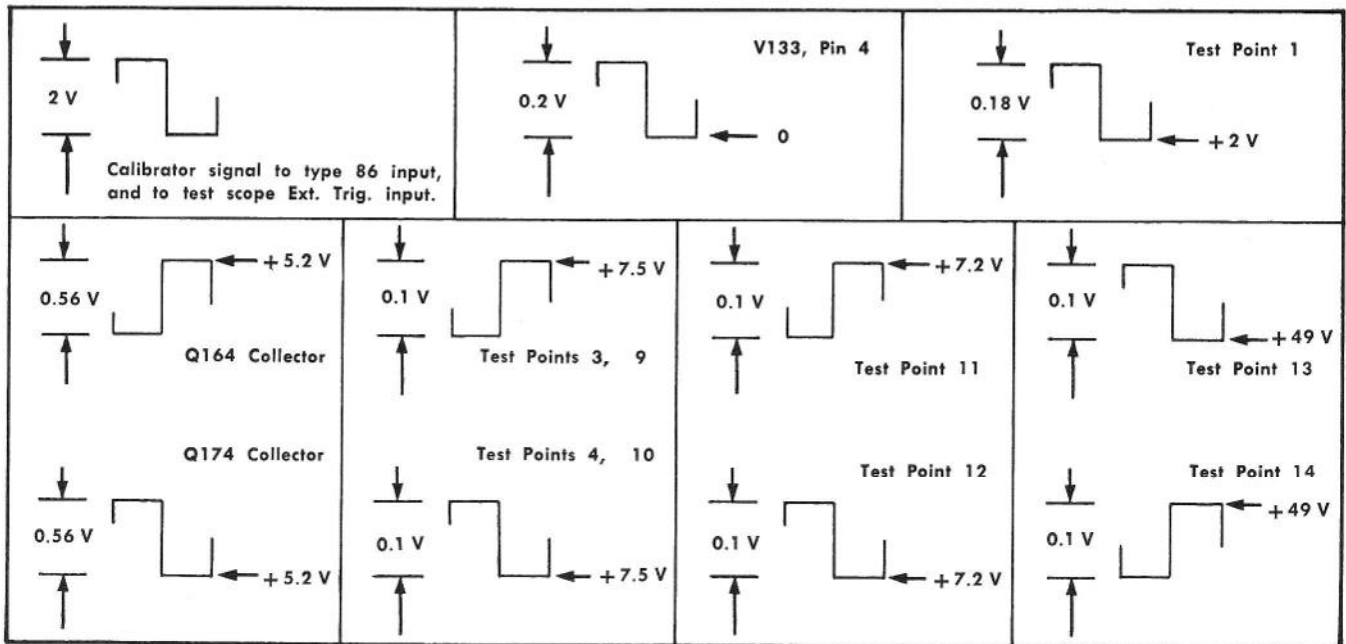

Fig. 4-7. Checking $\times 1$ voltage gain. Set the GAIN switch to $\times 1$ and the VOLTS/CM switch to 1.
The amplitude and DC level shown adjacent to the waveform drawings in Figs. 4-7 and 4-8 are intended to be used as a guide and are not absolute. They may vary due to gain-adjustment settings, normal manufacturing tolerances, and characteristics of Zener diodes, transistors and tubes. In addition, the power-supply voltages applied to the Type 86 vary between oscilloscopes within their tolerances. For example, the +12.6-volt supply can vary as much as ±5%.
6. Touch the tip of the probe to the Cal Out connector on the 580-Series oscilloscope. Set the front-panel controls on the test oscilloscope to display one or two cycles of the calibrator waveform. (Use a sweep rate of 0.1 ms/cm or 0.2 ms/cm). Be sure to set the test oscilloscope triggering controls for external triggering and to display the first $\frac{1}{2}$ -cycle of the waveform as positive going. The displayed waveform will then correspond to the input waveform polarity as shown in Figs. 4-7 and 4-8. Disconnect the probe.